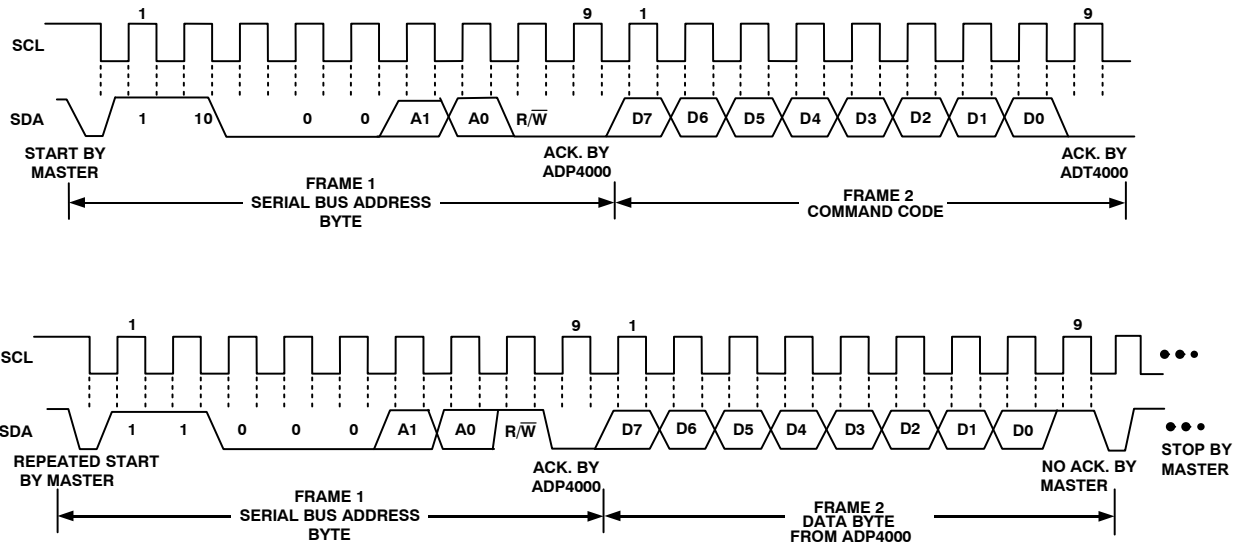

Figure 13. Read Byte
2. The read byte operation is shown in Figure 13. First the command code needs to be written to the ADP4000 so that the required data is sent back. This is done by performing a write to the ADP4000 as before, but only the data byte containing the register address is sent, because no data is written to the register. A repeated start is then issued and a read operation is then performed consisting of the serial bus address; R/\overline{W} bit set to 1, followed by the data byte read from the data register.